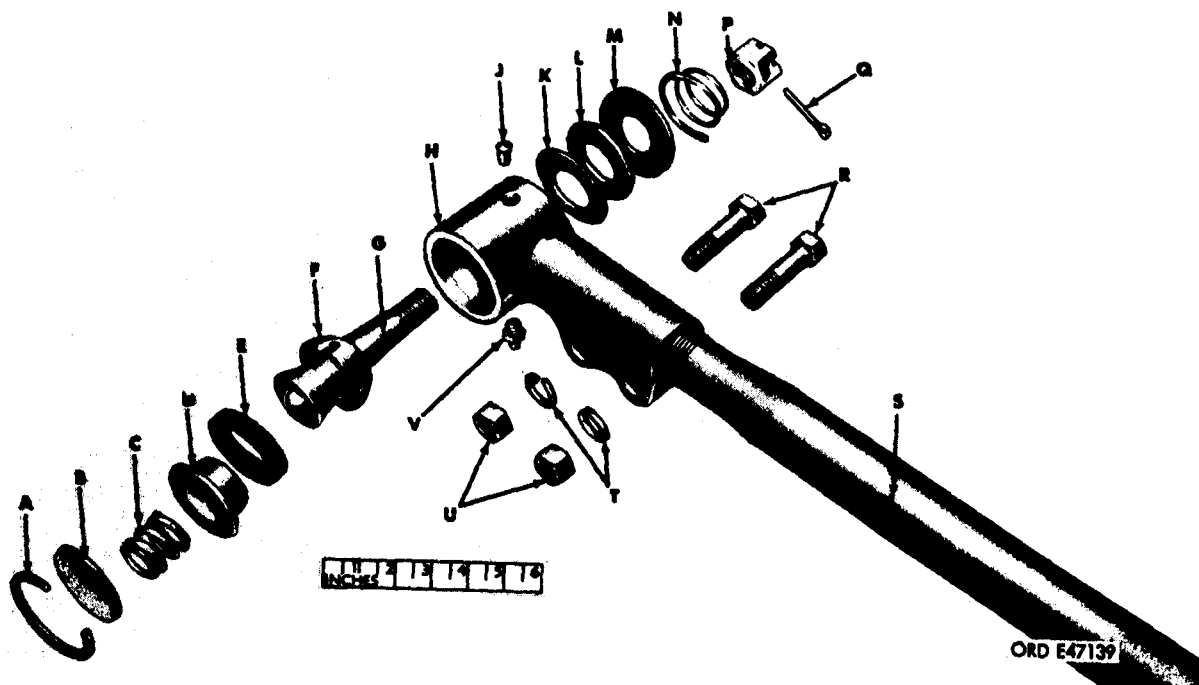

Figure 349. Tie-rod end assembly- exploded view
(1) General. The tie rod assembly need not be disassembled unless inspection reveals that parts must be replaced. The following procedure will apply when disassembling.
(2) Loosen tie rod end capscrews (figure 349). Loosen the two capscrews (R), and nuts (U) holding the tie rod end at each end of tie rod tube (S). Loosen tie rod tube from the tie rod ends by using a chisel to remove tack weld at each tie rod assembly. Do not damage threads.
(3) Remove tie rod end assemblies (figure 349). Remove tie rod end assemblies from tie rod tube (S).
(4) Disassembly of tie rod end assemblies (figure 349). If necessary to disassemble tie rod end assemblies to replace worn or damaged parts, remove end plug snap ring (A) from base of tie rod end. This will permit removal of end plug (B), compression spring (C), spring seat (D), felt washer (E), end stud bearing (F), and end stud (G) from inside of tie rod end.
c. Assembly (figure 349).
(1) Install end stud bearing (F) in tie rod end notch in bearing over end stud bearing pin (J).
(2) Install end stud (G) from bottom of tie rod end.
(3) Place felt washer (E) over spring seat (D) and enter assembly from bottom of tie rod end until spring seat contacts end stud(G). Closed end of seat must be toward end stud.
- (4) Insert compression spring (C) in spring seat (D). Install end plug (B) and secure with end plug snap ring (A).
- (5) Install two cap screws (R), lockwashers (T), and hex-nuts (U) in tie rod end. Tighten fingertight only, as toe-in must be adjusted after axle is installed on truck.
- (6) Repeat operations (1) through (5) above for other tie rod end.
- (7) Install tie rod ends on end of tie rod tube (S). Tube is threaded left-hand thread one end, right-hand thread at other end. Right tie rod mounts on right-hand thread end of tube. Install each tie rod end same number of turns on tube.
- (8) Install washer (K), shield seal (L), stud shield (M), and tapered compression spring (N) over thread end of end stud (G). Spring must be installed with large diameter toward stud shield. Install slotted nut (P) to hold spring and seal assembly on tie rod end stud until tie rod is assembled to front axle.
- (9) Repeat operation (8) above for other tie rod end.